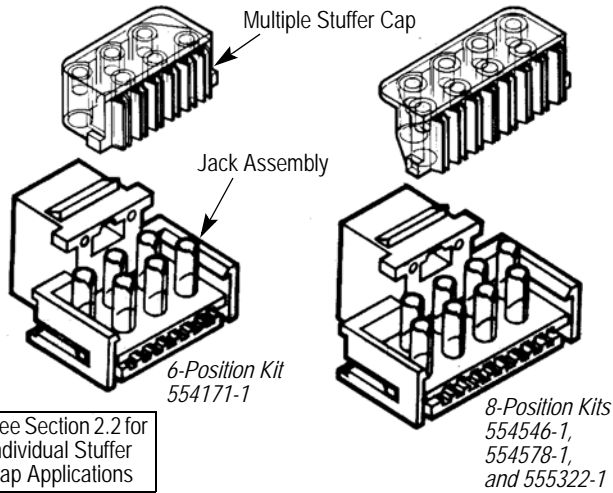

Figure 1
This instruction sheet provides terminating procedures for the 6- and 8-Position Commercial Keystone Jack Kits shown in Figures 1 and 7.
- Added part number to Figure 1.